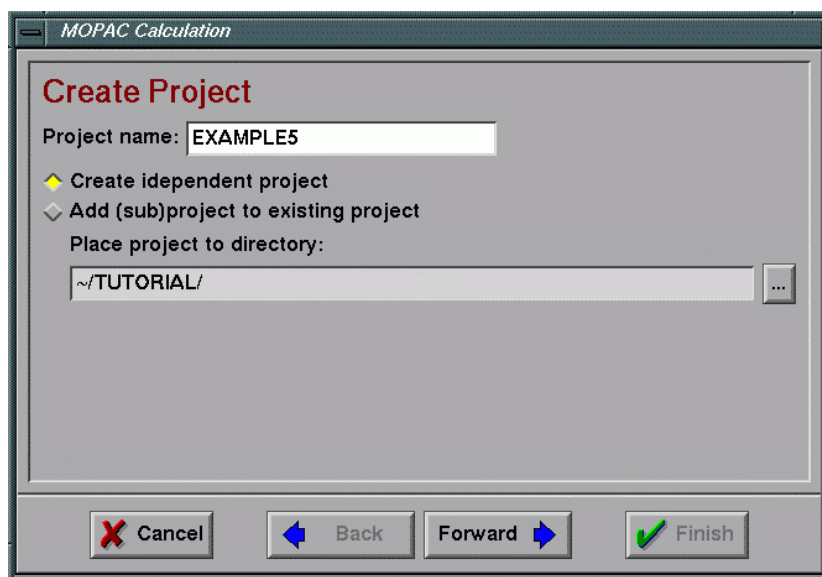

Fig 14.5 Window for specification of project name and location
- 4) Input the project name into *Project name* field (**Fig 14.5**). This will name the project and all input files for the calculation. Then the project should be placed into the specified directory.